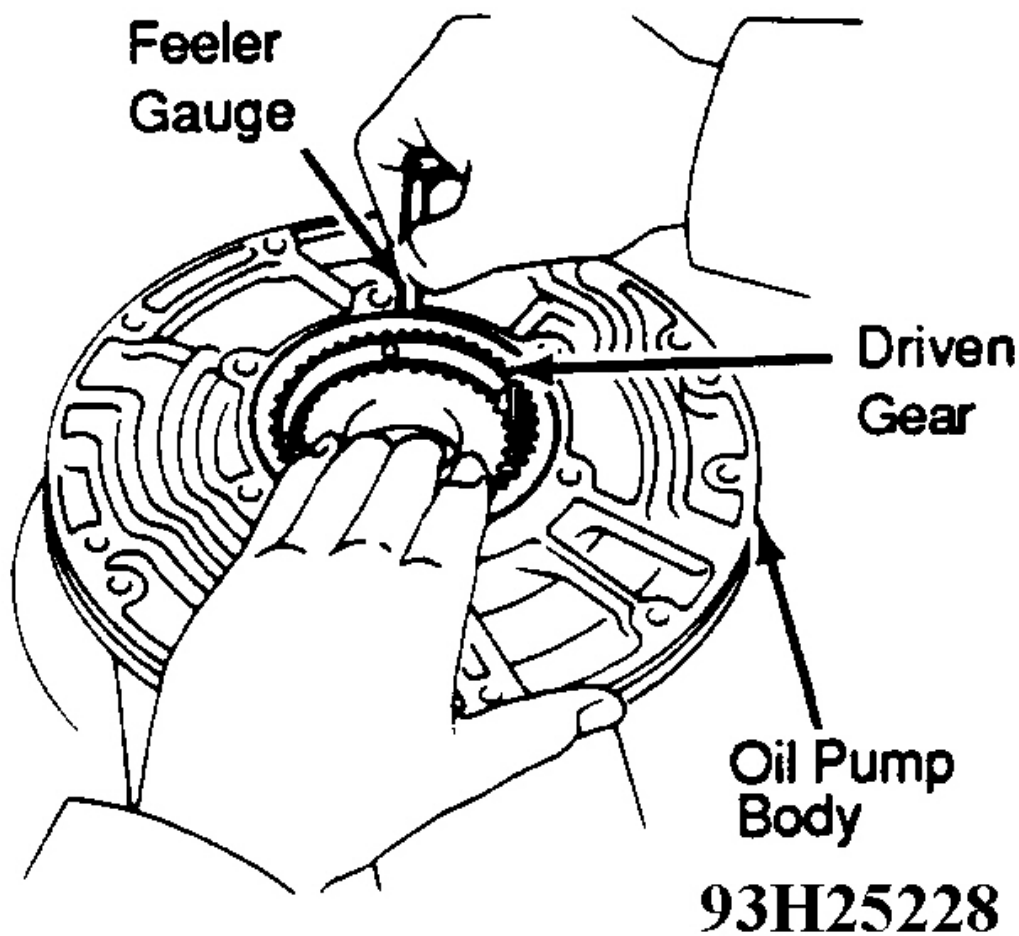

Fig. 15: Checking Driven Gear Clearance
2. Check driven gear-to-body clearance. Push driven gear against one side of pump. Using a feeler gauge, measure clearance between the driven gear and the pump body. See **Fig. 15** . Replace drive, driven gear and pump housing if not within specification. Refer to the **OIL PUMP CLEARANCE SPECIFICATIONS** table.